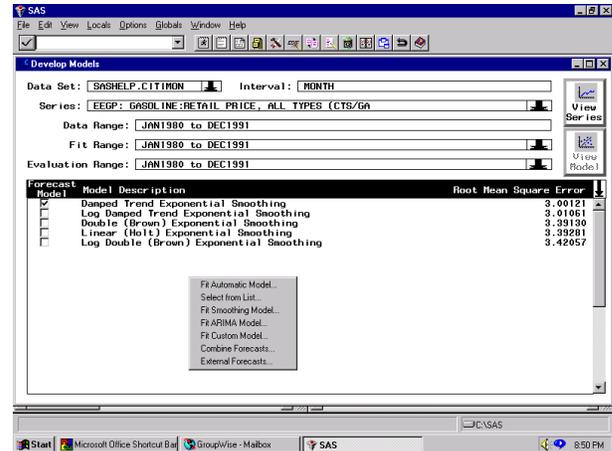
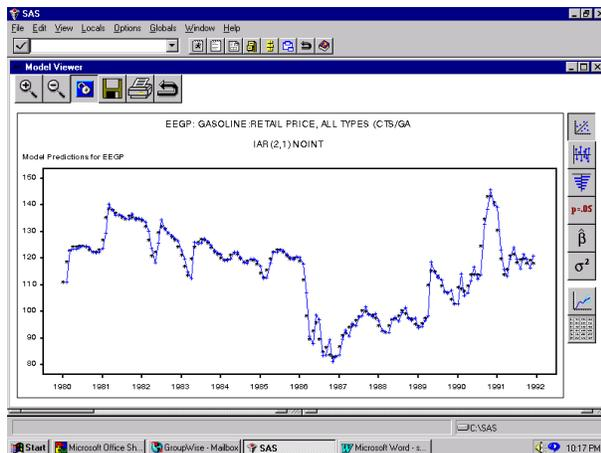
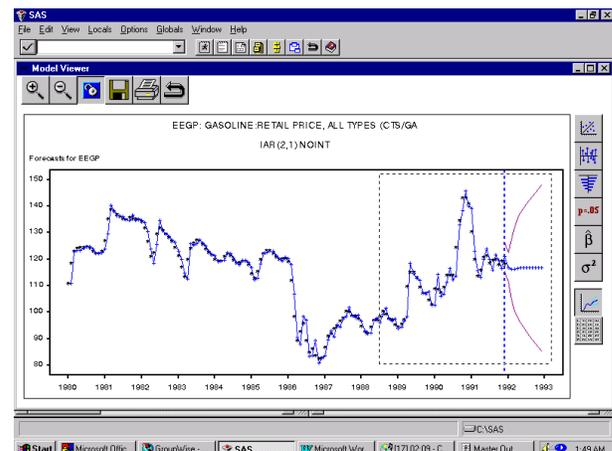
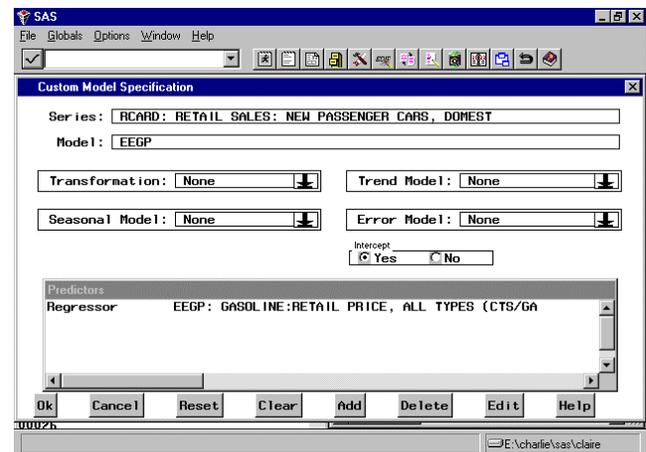

Figure 16 Develop Models
Figure 18 Model Viewer
Figure 20 Zooming In on Plot Forecasts
Figure 23 Custom Model Specification
The plot of first differences shows no obvious evidence of a trend remaining in the series, and the autocorrelation plot is consistent with a stationary series. Examination of the autocorrelation and partial autocorrelation plots suggests that an autoregressive model in first differences might be appropriate, that is, an $IAR(2,1)$ model. Clicking on the **Goback** icon on the right along the top returns you to the **Develop Models** screen (see Figure 16).
Clicking “Ok” estimates the IAR(2,1) Model and returns you to the **Develop Models** screen where you see that the IAR(2,1) model has a RMSE of 2.82 and, hence, is the best model found so far according to the RMSE criterion. The IAR(2,1) model was not found before because it did not appear on the **Model Selection List**. You will see how to add a model to the list later. For now, highlight the IAR(2,1) model, right-click and select the first choice on the popup menu, **View Model....** This brings up the **Model Viewer** screen (see Figure 18).
- Predictions (the default in Figure 18)
Click on **OK** to return to the **Develop Models** screen. To see the forecasts for the IAR(2,1) model, click on the line for that model to highlight it (it should be the last model in the list). Clicking on the **View Model** button on the upper right (see Figure 16) brings up the **Model Viewer** screen (see Figure 18). Click on the bottom button on the right, **Plot Forecasts**. To zoom in on the end of the series, click on the **Zoom In** button at the left along the top. The mouse pointer changes its appearance; holding down the left mouse button, trace out a box including the last few years of the graph (see Figure 20).
Now you will see if you can improve the forecasting model for RCARD by using EEGP as an explanatory variable. When you fit automatic models to both EEGP and RCARD, you found that the best fitting model was the Log Winters Method – Additive, which had an RMSE = .70. The Winters Method – Additive had only a slightly larger RMSE of 0.72. To use EEGP as an explanatory variable in a model for RCARD, return to the **Develop Models** screen (see Figure 16) and select RCARD as the Series. Click in a blank area of the screen and select **Fit Custom Model...** to get the **Custom Model Specification** screen. In the lower portion of the screen labeled Predictors, click and select **Add Regressors...** and select EEGP. The result is Figure 23.